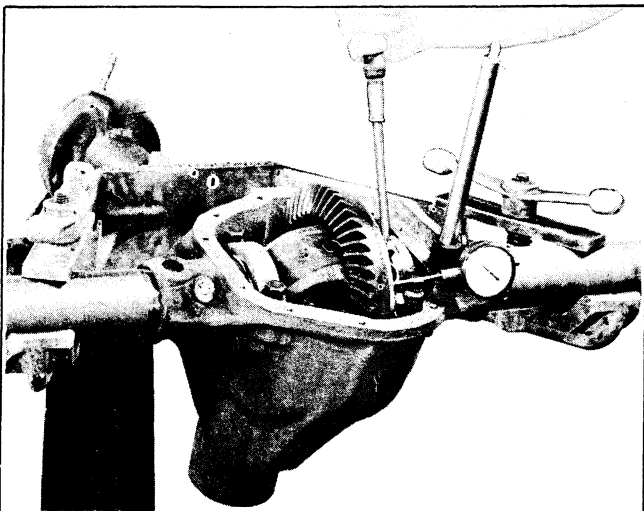
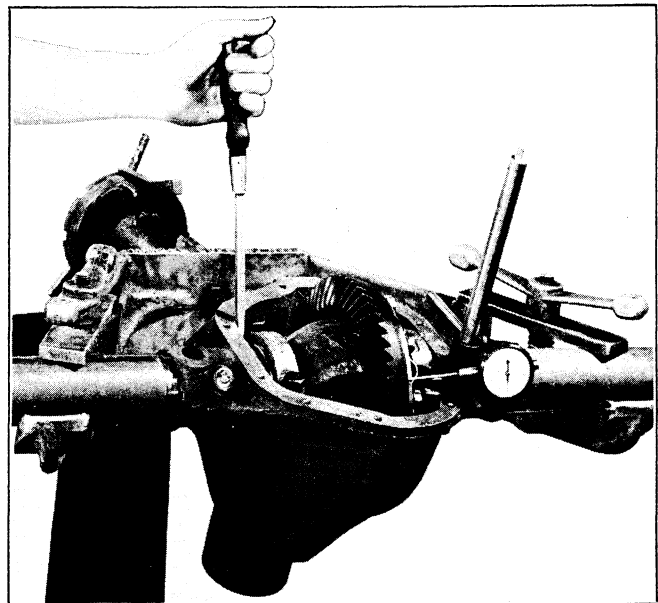

Figure 2-13. Dial Indicator Gage Set Up
Figure 2-14. Dial Indicator Gage Reading
8. Install differential bearing caps (6) in their correct positions, as noted in Step 4 of disassembly, with bearing cap screws (5) finger tight.
9. Set up dial indicator gage shown in Figure 2-13 with contact point on back of ring gear. With screwdriver blade between bearing cup and housing, pry case assembly as far as possible to one side of housing. Set dial indicator at zero. Shift case assembly to opposite side of housing and record reading. See Figure 2-14. The shim pack thickness to be placed between bearing cone assembly (9) and differential case (11) will be calculated later in the procedure.
10. Remove bolts (5), differential bearing caps (6) and place differential assembly (11) in a holding fixture or vise.